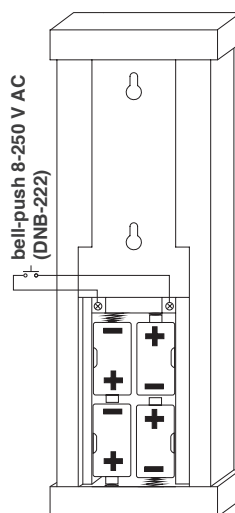

Fig. 3
1. Special two-wire connection – does not require power supply installation due to batteries (enables using low-voltage bell-pushes and brass doorbell pushes e.g. doorbell pushes type PDM-231, PDM-232, PDK-250/1, PDK-250/2, PDK-250/3 by ZAMEL) – Fig. 3.